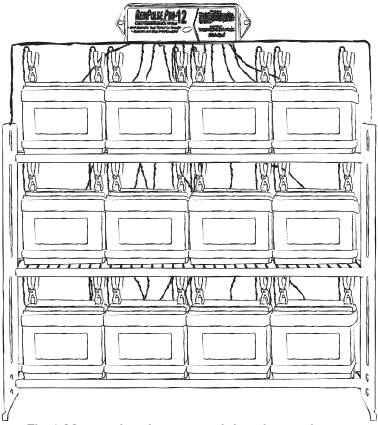

Fig.1 Mounted on battery rack header card
- c) Charger is designed to be installed on a battery rack header card (Fig.1), but it may also be installed on the side of the battery storage rack, on a shelf within reach, or permanently mounted to the wall using the enclosed mounting hardware.